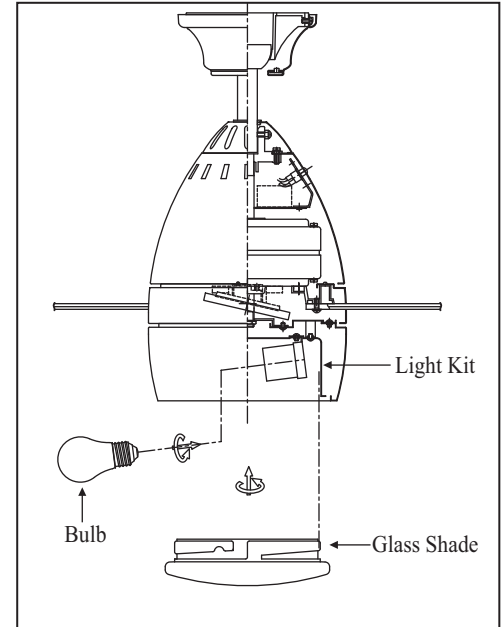

Figure 23
5. Raise glass shade up against the light kit, and secure it to fan by turning glass clockwise until snug. DO NOT OVERTIGHTEN. (Fig. 23)